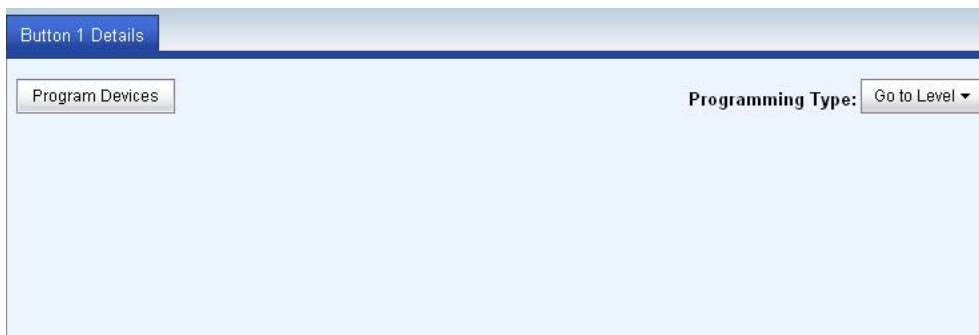
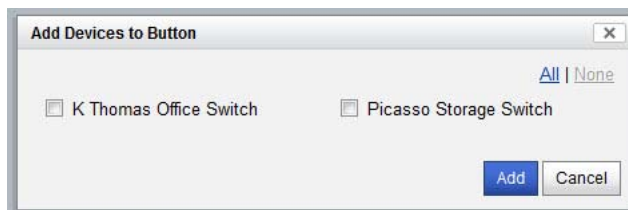

FIG. 40 Device Details
FIG. 42 Add Devices to Button window
The *Program* page allows you to program devices to buttons. Clicking a button in the *Devices* tab of the *Program* page view will show a window on the right with details on that button (FIG. 40).
1. Click the **Program Devices** button in the *Button Details* pane (FIG. 40) to open the *Add Devices to Button* window (FIG. 42).